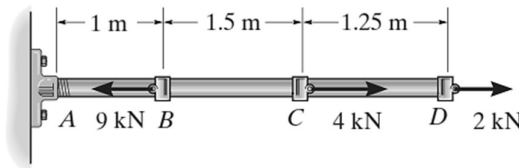

Fig. 3
3. The A-36 steel rod ( $E_{st} = 200$  GPa) is subjected to the loading shown in Fig. 3. If the cross-sectional area of the rod is determine the displacement of  $C$  and  $D$ . Neglect the size of the couplings at  $B$ ,  $C$ , and  $D$ . [ $\delta_C = 0.600$  mm;  $\delta_D = 0.850$  mm]